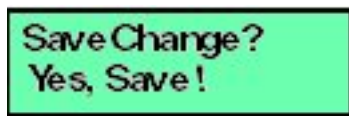

Figure 3.3. LCD Panel (Save Change)
4. Use the arrow keys as described in step 2 to input a new 4-digit numeric password, then press **ENTER**. The following message displays (Figure 3-3):